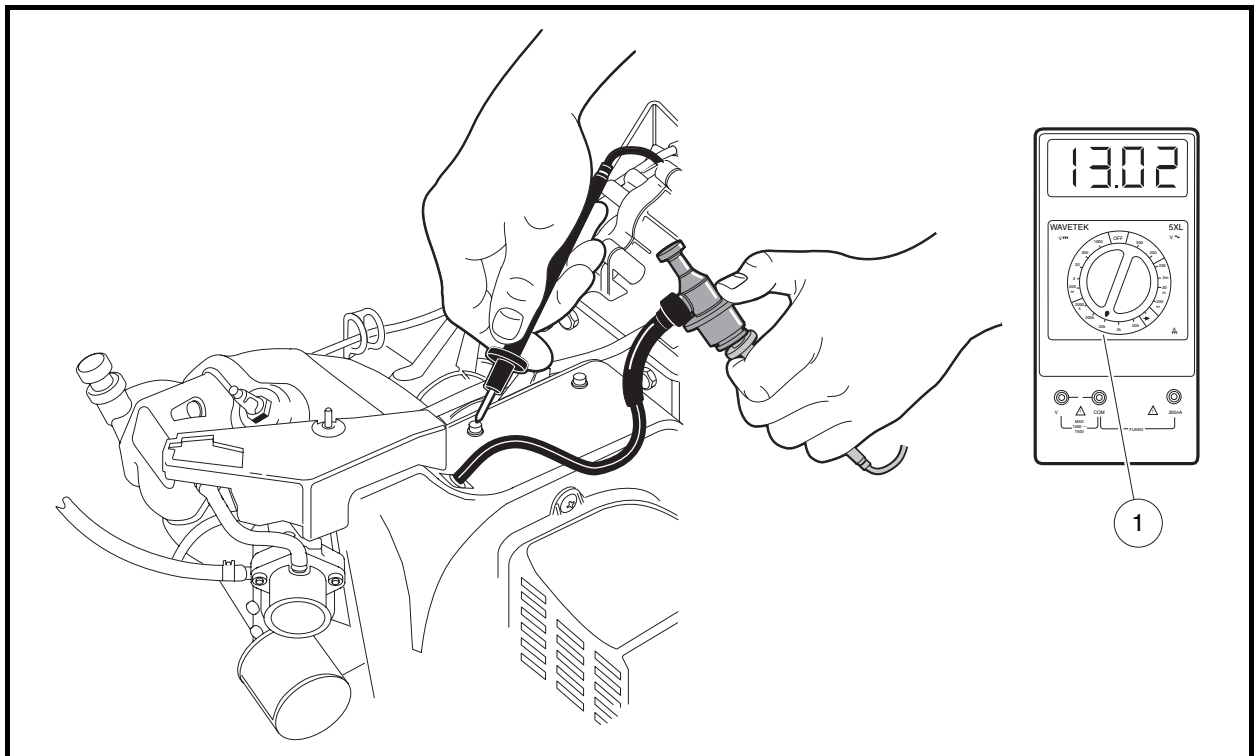

Figure 12-20 Secondary Coil Test – In Vehicle Test
- 3.1. Place the red (+) probe of the meter into the end of the spark plug cap that normally connects to the spark plug and place the black (-) probe on a clean unpainted surface of the engine or frame (**Figure 12-20, Page 12-22**).